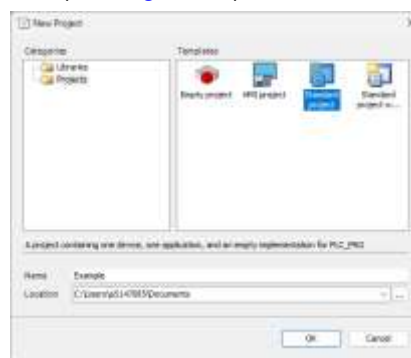

Figure 30. New Project Pop-Up
- Enter a project name and click **OK** (see Figure 30).